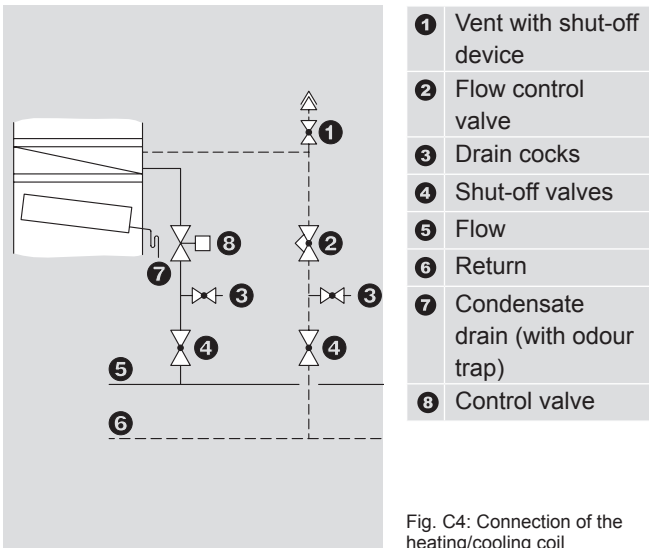

Fig. C4: Connection of the heating/cooling coil
- Connect the heating coils in accordance with Fig. C4. Depending on local conditions, check whether compensators for linear expansion are required for the flow and return lines and/or articulated connections are required for the units.